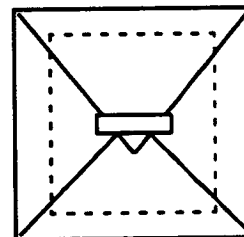

Fig. 3
4. Apply a second wrapping material to the packet produced in Step 2 above (Fig. 3). Tape and autoclave.